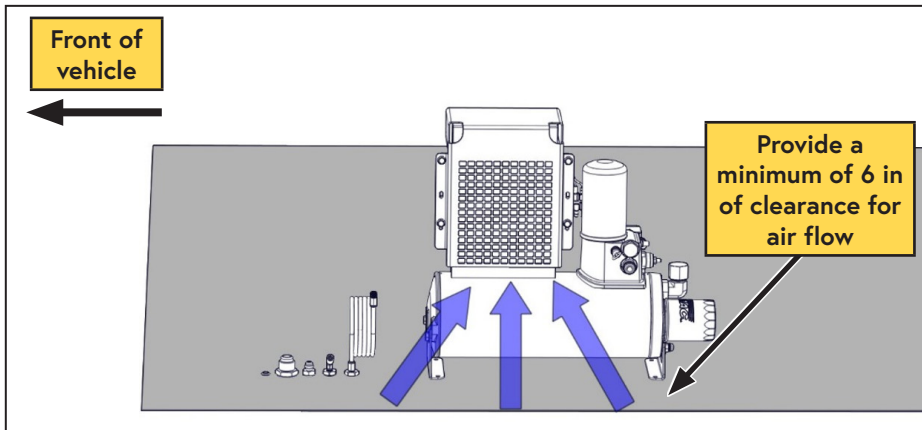

Figure 31 — WHASP ventilation
A minimum of 6 in of clearance is recommended around the radiator (intake) side of the WHASP Tank to allow fresh, cool air to circulate into the cooler and fan (Figure 31).
- Connect the 1/4 in PTFE tube to the 1/4 in push-to-connect (oil scavenge) fitting near the coalescing filter (Figure 31).